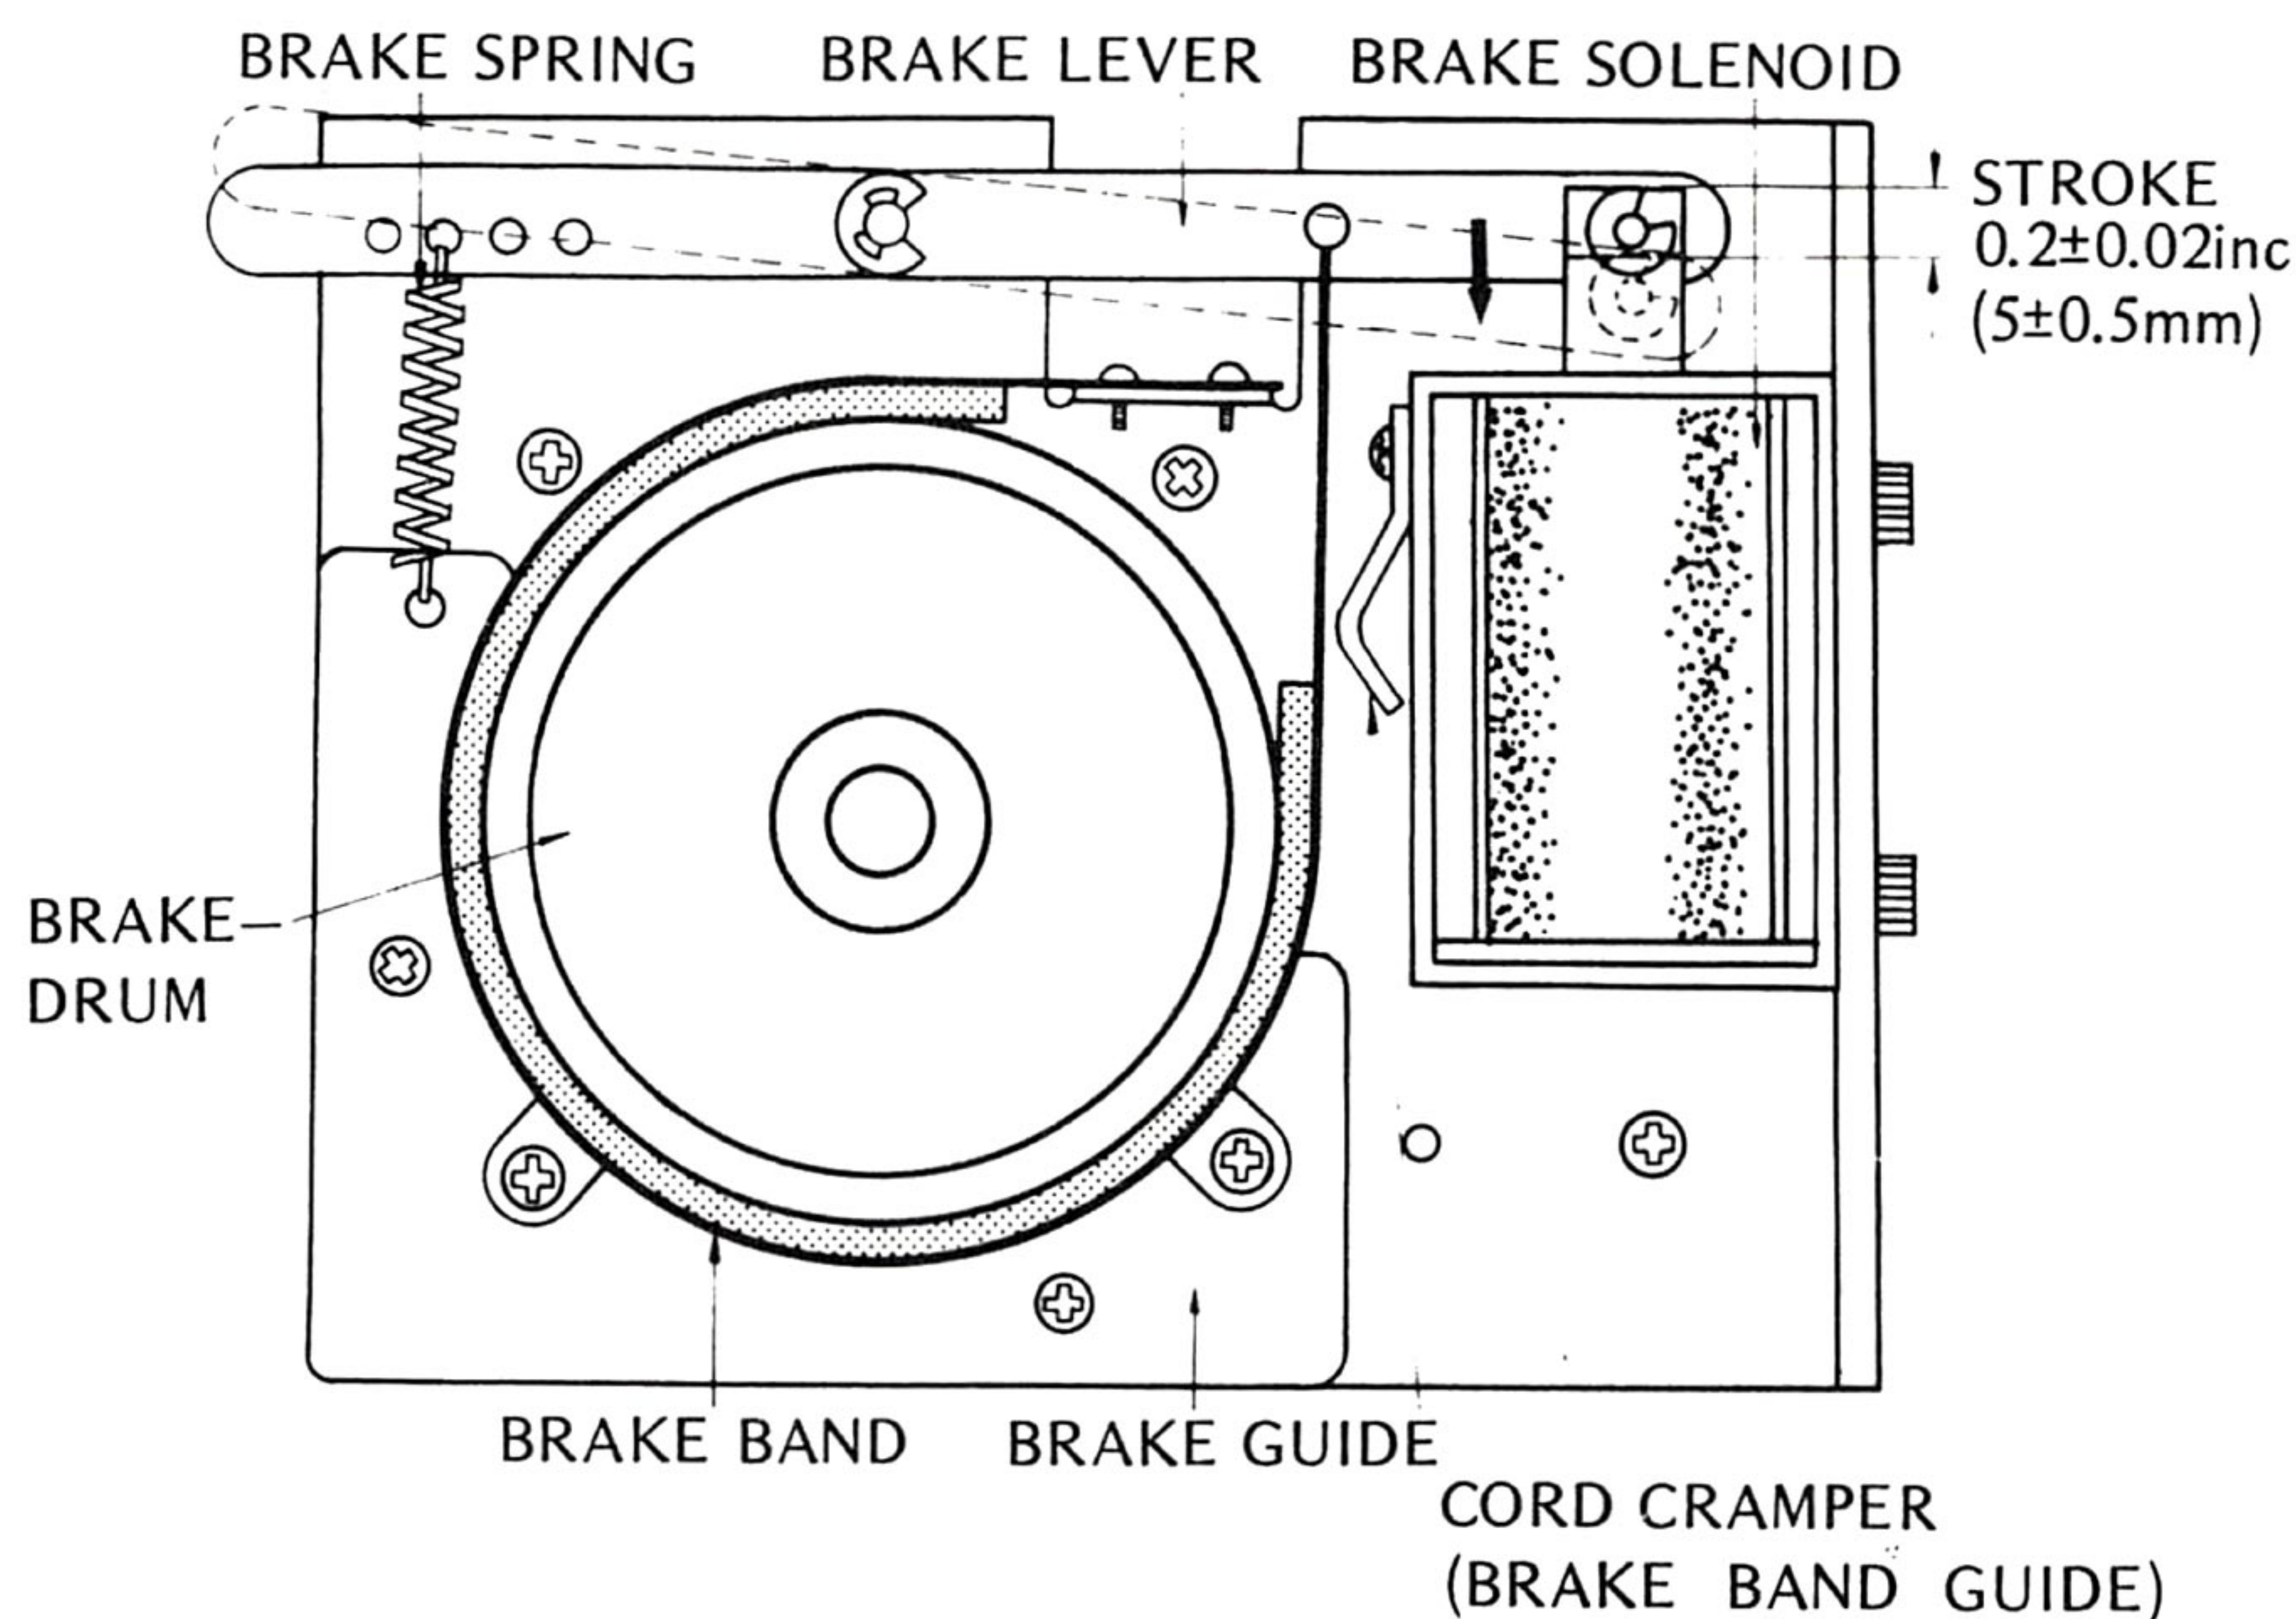

Fig. 2-3 Adjusting Parts Location
7. If the readings were low in both directions, remove the brake spring (shown in Fig. 2-3) from the existing anchor hole on the brake lever and install spring in the next hole located farther away from the brake solenoid.